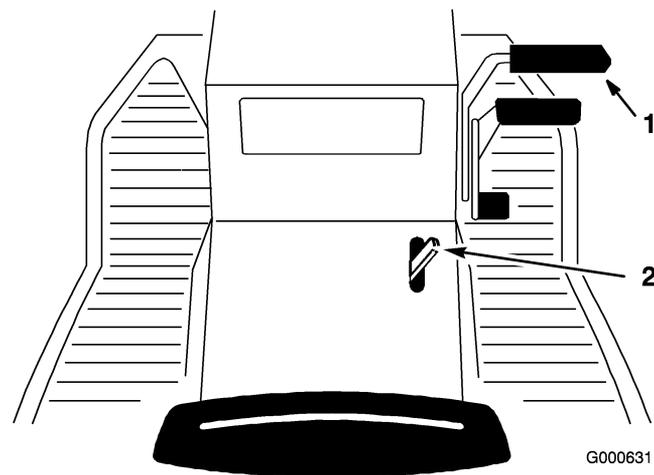

Figure 14
1. Push the brake pedal (Figure 14) down and hold it in the depressed position.
2. Lift the parking brake lever (Figure 14) forward and gradually take your foot off the brake pedal. The brake pedal should stay in the depressed (locked) position.
1. Push down on the brake pedal (Figure 14). The parking brake lever should release.